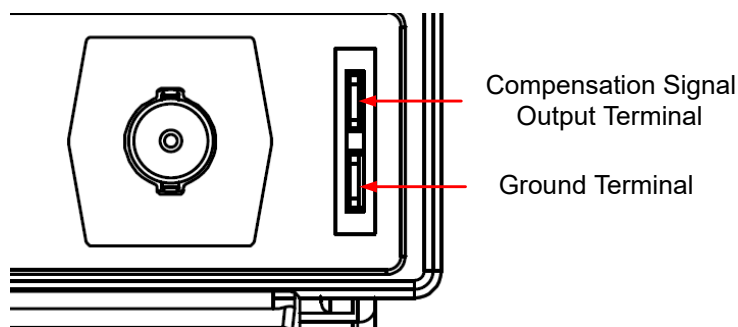

Figure 5.5 Using the Compensation Signal
2. Connect the ground alligator clip of the probe to the "Ground Terminal" as shown in *Figure 5.5*.
3. Use the probe to connect the input terminal of CH1 and the "Compensation Signal Output Terminal" of the probe, as shown in *Figure 5.5*.